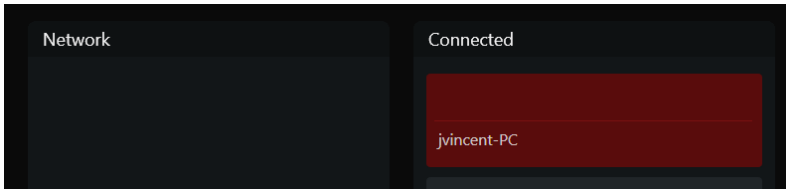

Figure 24. Workstation offline
**Offline** A connected workstation can become *offline* if WControl was shut down properly on that workstation (indicated by a red rectangle as shown in Figure 24).